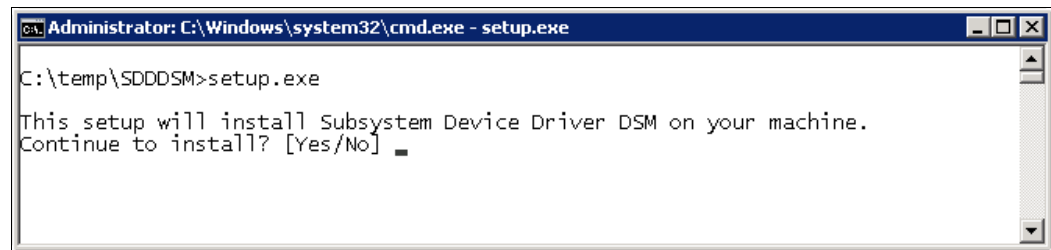

Figure 4-2 SDDDSM setup
2. Extract the package to your hard disk drive and run `setup.exe` to install SDDDSM. A command prompt window opens, as shown in Figure 4-2. Confirm the installation by entering Y.